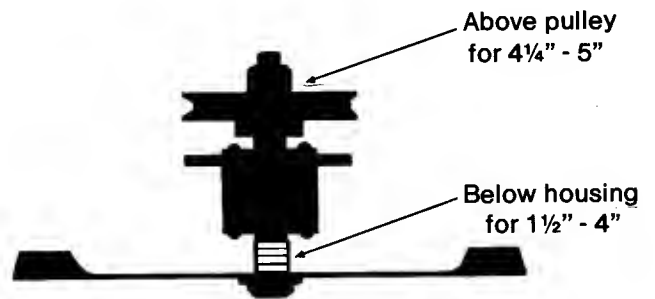

Figure 19 Spacer Placement
**Note:** 4¼"-5" cutting height, see Fig. 19, Pg. 13.